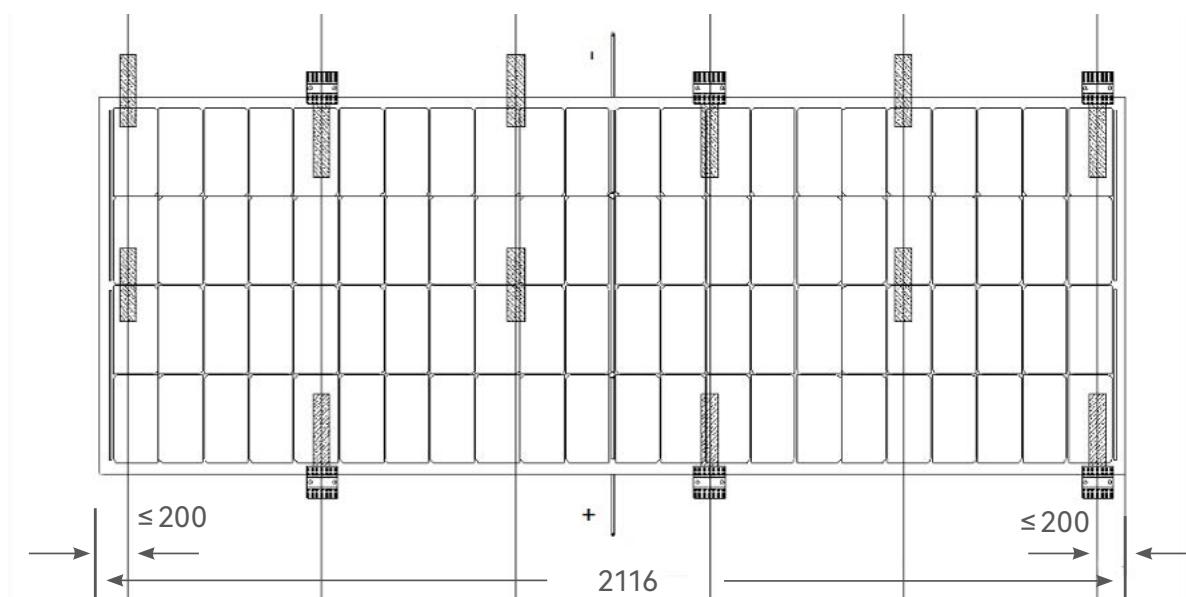

FIGURE 42
- The overhang dimension B should be equal at both ends of the product and should not be greater than 200 mm (Figure 42)